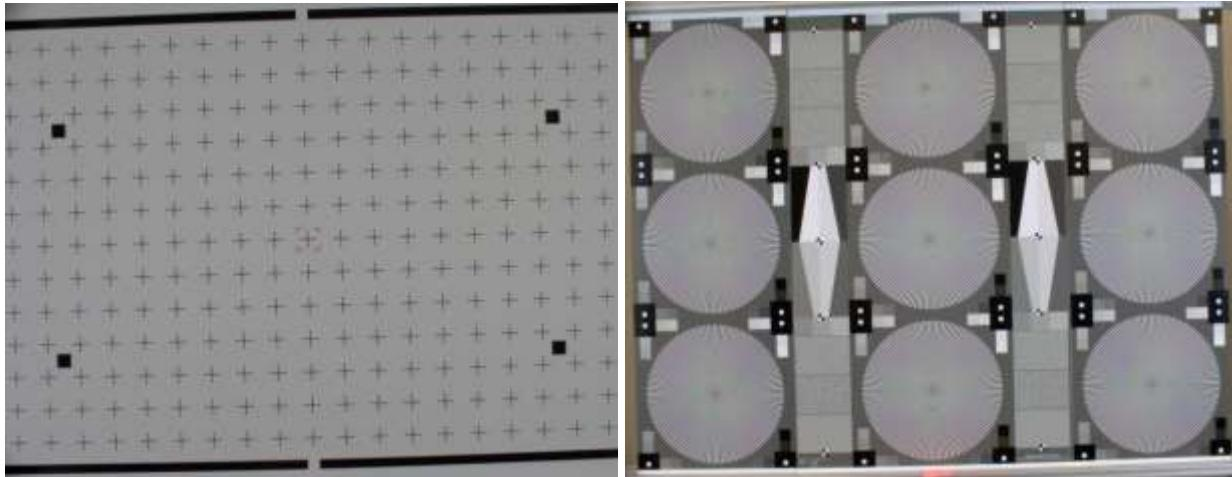

Figure 30. Examples of Images with Clockwise Camera Rotation
32. If the image on the monitor appears to be lower on the left side than on the right side, but otherwise the image does not appear to shrink on the right or left side (Figure 30), adjusting the Tripod Angle Rotation (bottom knob) so the camera rotates counter-clockwise as viewed from the back of the camera will “square-up” the image.